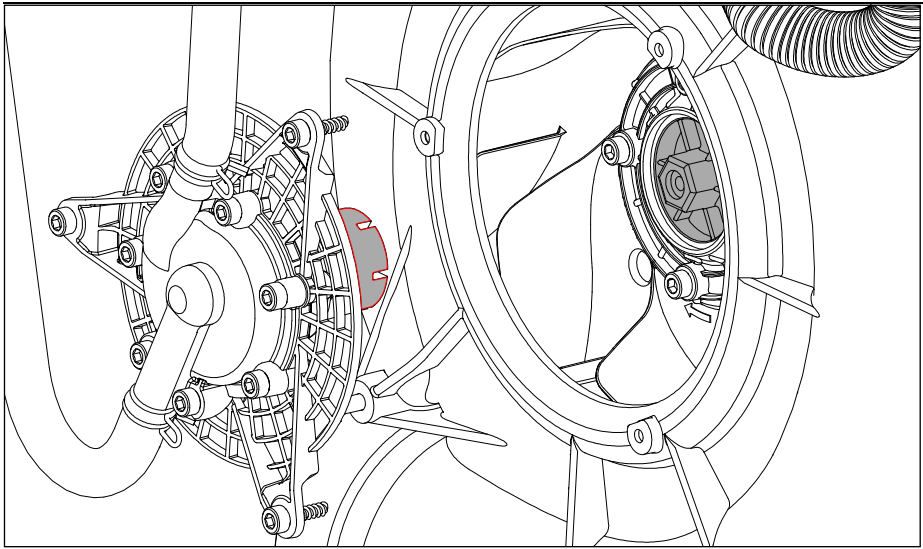

Figure 4 Engaging the pump in the fan
- Assemble the pump by grafting the slots in the rotor of the pump, on the ribs of the hub of the fan (as shown with **G** in Figure 4).